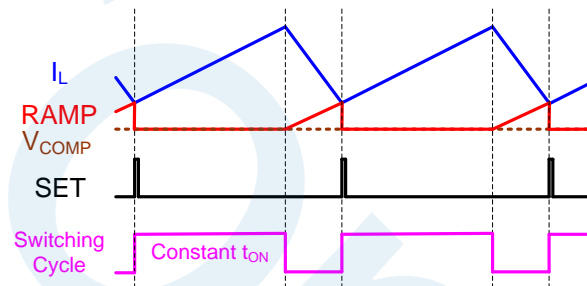

Figure 4: Switching Cycle Generation
The operational error amplifier (EA) corrects any error voltage between VFB and VREF. With the help of the EA, the MPQ8875A can provide excellent load regulation across the whole load range, regardless of whether the device operates in forced continuous conduction mode (FCCM) or discontinuous conduction mode (DCM). It also features internal ramp compensation. The adaptive internal ramp is optimized so that the converter is stable across the entire operating voltage range, with proper design of the external components. Figure 4 shows how the switching cycle is generated.